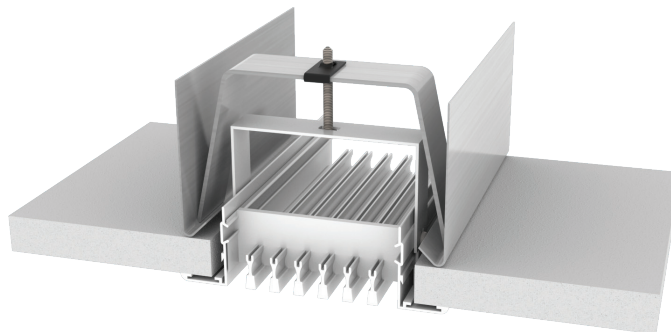

Figure 4 (Step 4B): Hanger Bracket Install – Hemmed Plenum (other methods similar)
- B. Push all brackets up into the opening until all hanger brackets get caught on the hanger bracket support (drywall, hemmed plenum, angle, steel stud, etc.) – see Figure 4.